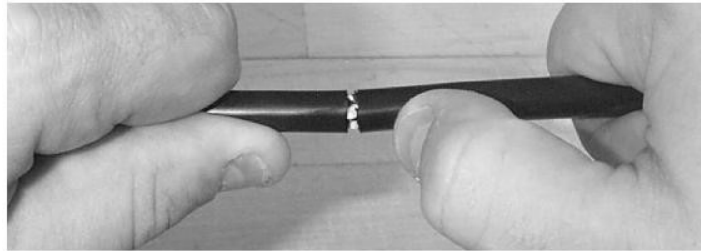

Figure 3 . Flex the cable to separate the sheath
4.3 Gently flex the cable at the ring cut with a circular motion, being careful not to breach the minimum bend diameter. The cable sheath will separate at this point (Figure 3).